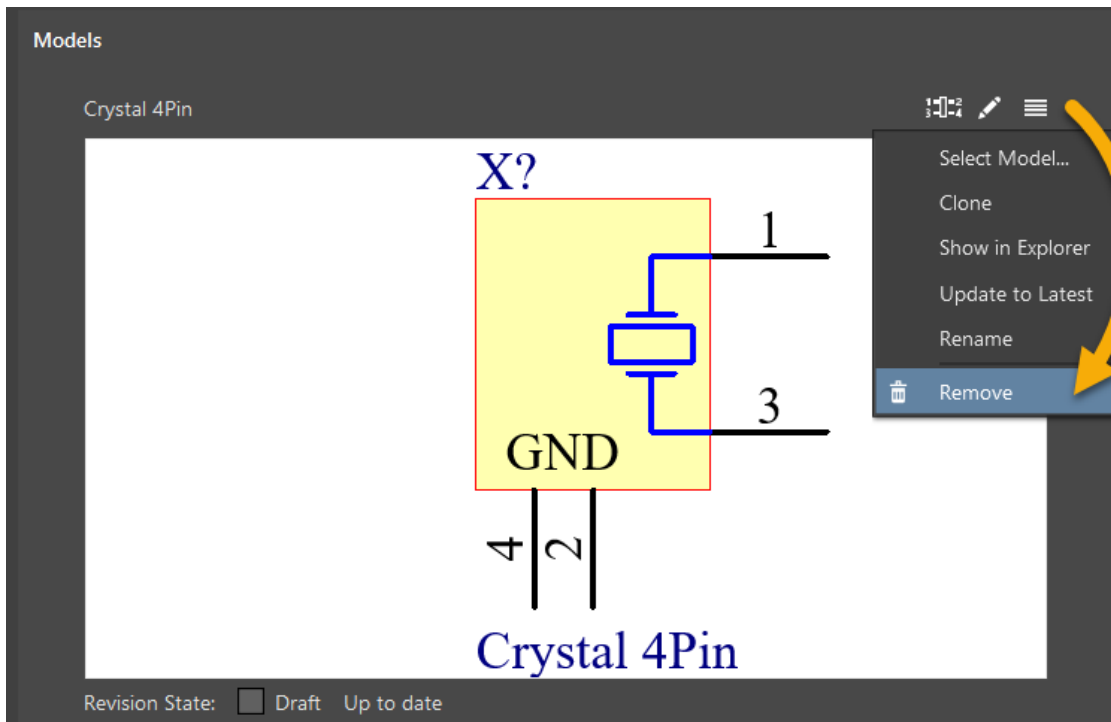

Figure 9. Remove existing 4-pin crystal symbol
12. From the existing 4-pin crystal, right-click the four-bar menu button  and select **Remove**. See Figure 9 below.